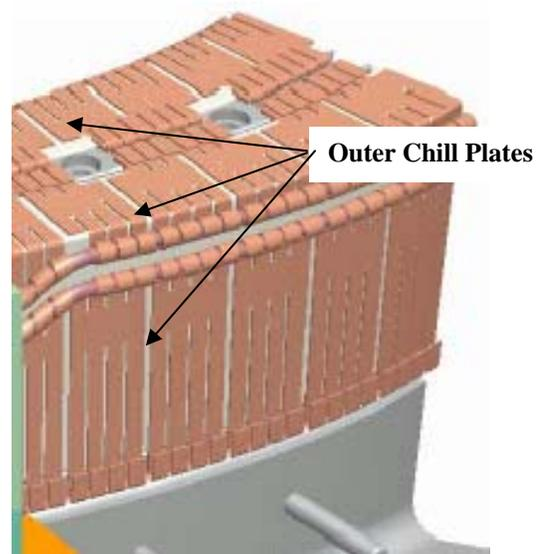

Figure 34- Outer Chill Plates
- 6.30.2 Continue installing the balance of the chill plates and cooling tubes per section 6.29.2 and 6.29.3. [Figure 34- Outer Chill Plates]